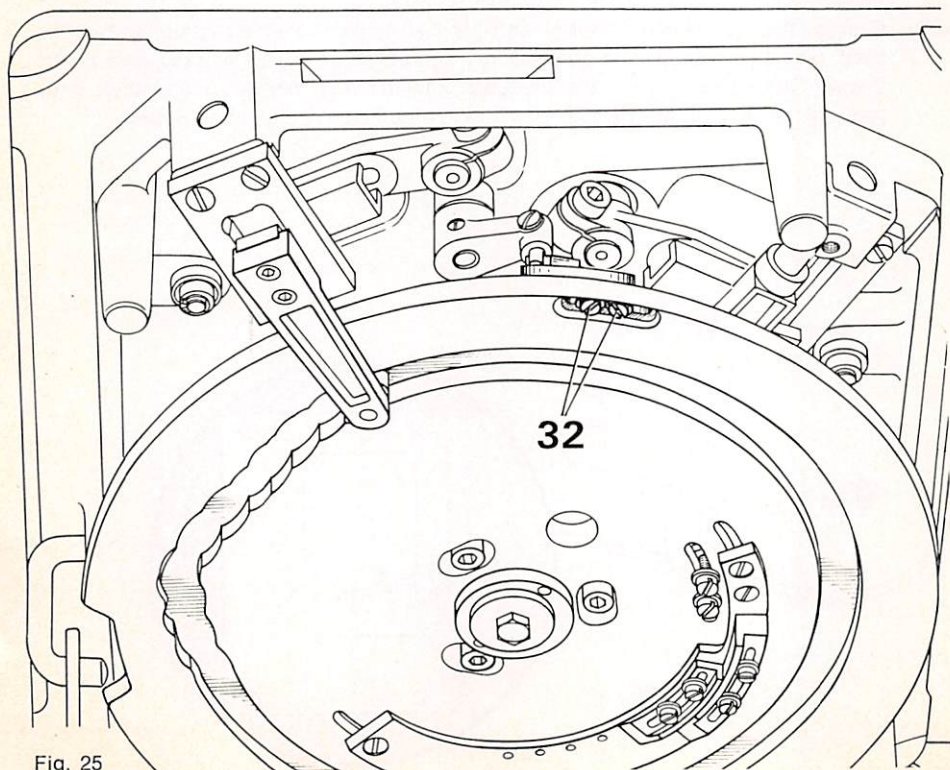

Fig. 25
**25. Timing the thread catcher motion (Fig. 25)**